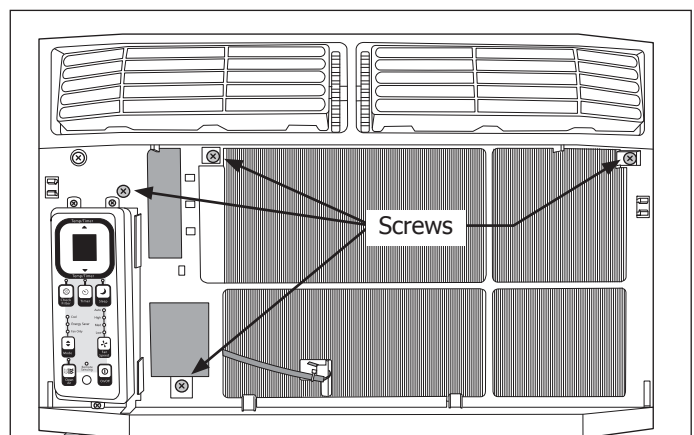

Figure 4-107.
6. Extract the four screws securing the front panel to the unit frame. (See Figure 4-107)